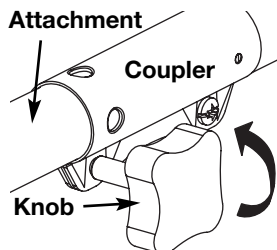

Fig. 2
2. Turn the knob counterclockwise to loosen the coupler (Fig. 2).